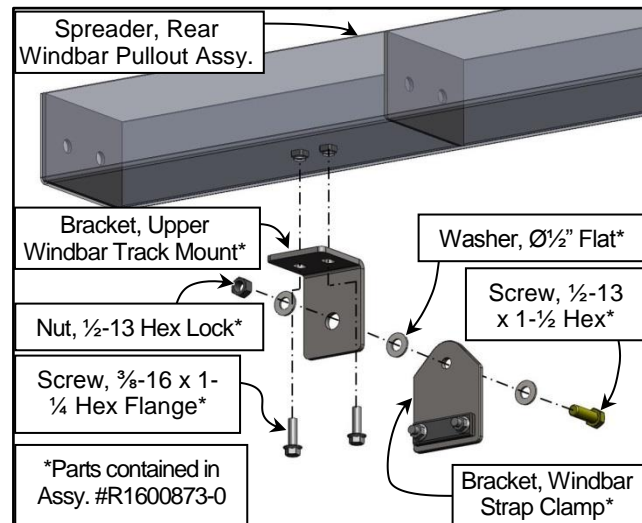

Figure 61
1. Assemble the Windbar Strap Clamp Assemblies to the Rear Windbar Pullout Spreader as shown on both ends. Orient the bracket assemblies so they are closest to the edge. (See Figures 61 and 62)